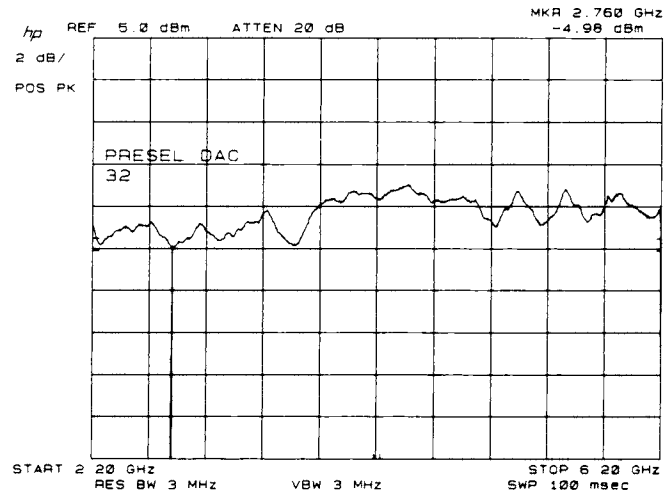

Figure 3-72.
20. On the Spectrum Analyzer (DUT), key in **FREQUENCY SPAN** 0 Hz, **CF STEP SIZE** 100 MHz, **CENTER FREQUENCY**. Using the DATA knob and step keys, tune the A11A3 YTO to position the TRACE A signal at the lowest point on the TRACE B waveform on the display of the second spectrum analyzer. See Figure 3-72. Key in **SAVE** 5 on the Spectrum Analyzer (DUT).
23. On the Spectrum Analyzer (DUT), key in **RECALL** 5, **CENTER FREQUENCY**. Use the DATA knob to tune the A11A3 YTO to position the TRACE A signal at the lowest point on the TRACE B waveform on the display of the second spectrum analyzer, as shown in Figure 3-72.